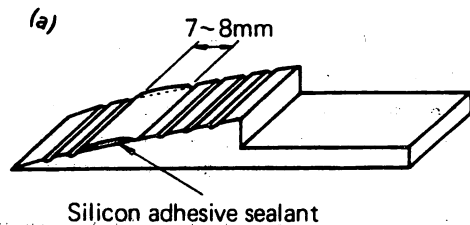

Figure 5-19
- a. A silicone adhesive sealer should be put on the wedge before it is inserted as shown in Figure 5-19.